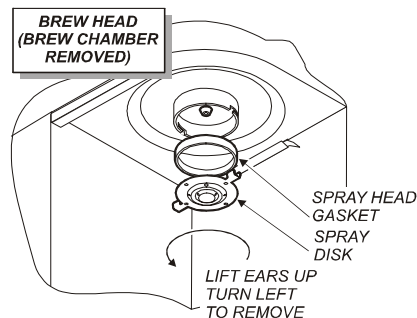

Fig. 7 Cleaning
4. Remove the spray disk from the brew head (See figure 7): Press up on the spray disk ears, then turn the disk to the left to unlatch. Remove the gasket from inside the brew head.